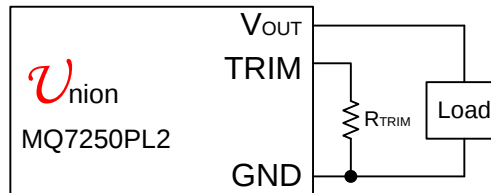

Fig3. Circuit configuration for programming output voltage using external resistor
**MQ7250PL2**'s output voltage can be trimmed in certain ranges. See Figure 3 for the 2 programming methods. See Performance Specifications for allowable trim ranges in detail. Also customized products are offered.